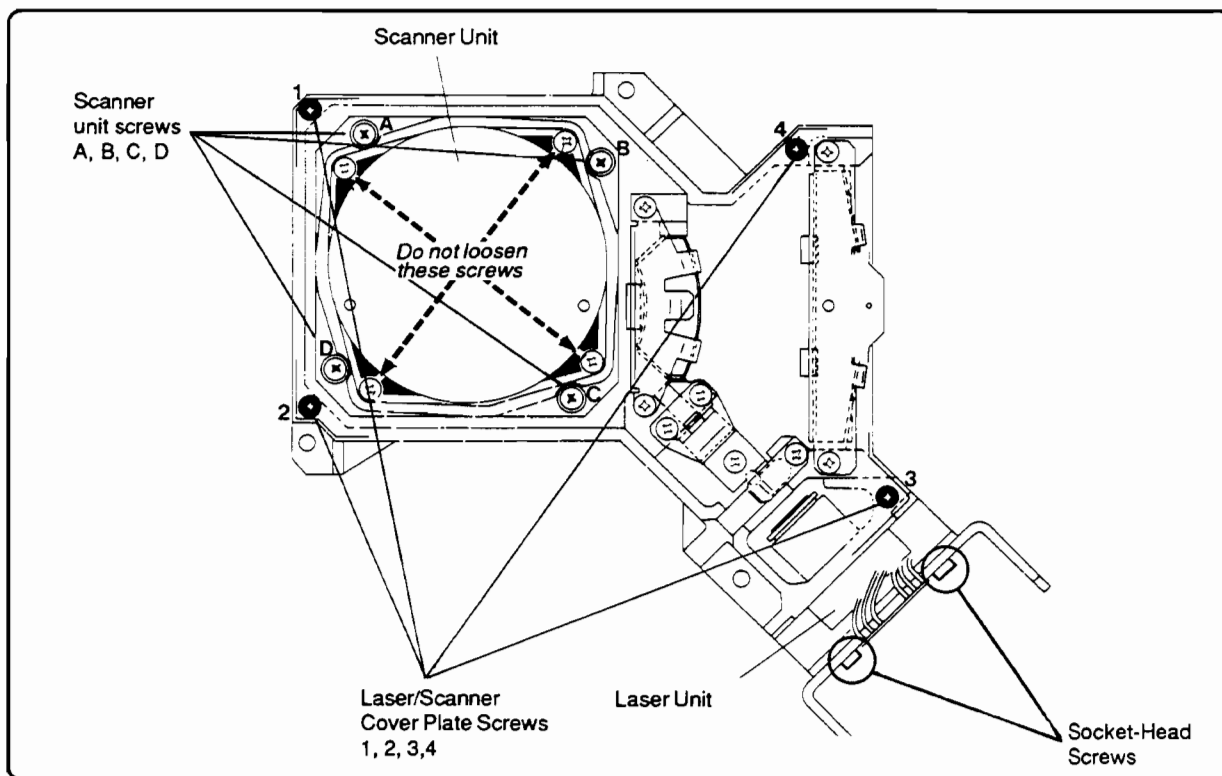

Figure 6-44. Laser and Scanner Unit Removal
3. Remove the Laser/Scanner Assembly cover plate (four screws) (see Figure 6-44, above).
4. Remove the four screws holding the Scanner Unit in place (screws A,B,C,and D in Figure 6-44).